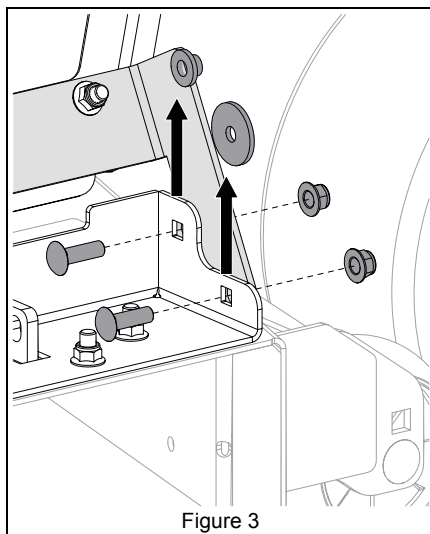

Figure 3
6. Remove two bolts, two nuts, one washer and one spacer from each side of discharge chute bracket. See Figure 3.